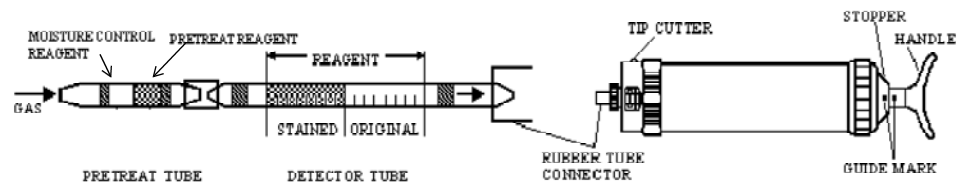

Fig.1
- ① Break both ends of detector tube and pretreat tube, and connect each end of the detector tube and pretreat tube with rubber tube connector as shown in Fig.1.
- ② Insert the detector tube into aspirating pump securely as shown in Fig.1 (Arrow mark shall point to the pump)
- ③ Align the guide marks on the shaft and stopper of the aspirating pump.
- ④ Pull the pump handle at full stroke until it locks and wait for 1 minute or until the completion of sampling is confirmed with the flow indicator of the pump (See descriptions about the flow indicator in the instructions of the pump).